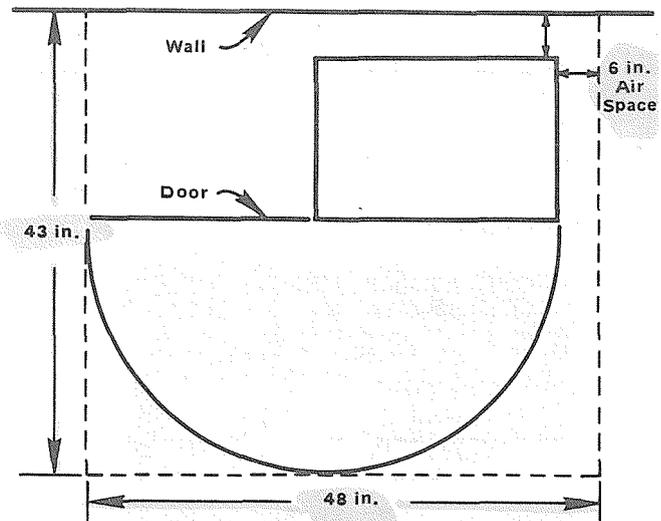

FIGURE 1—MINIMUM DCEC FLOOR SPACE
04.31 The minimum floor and maintenance space required for installation of the DCEC is shown in Figure 1.